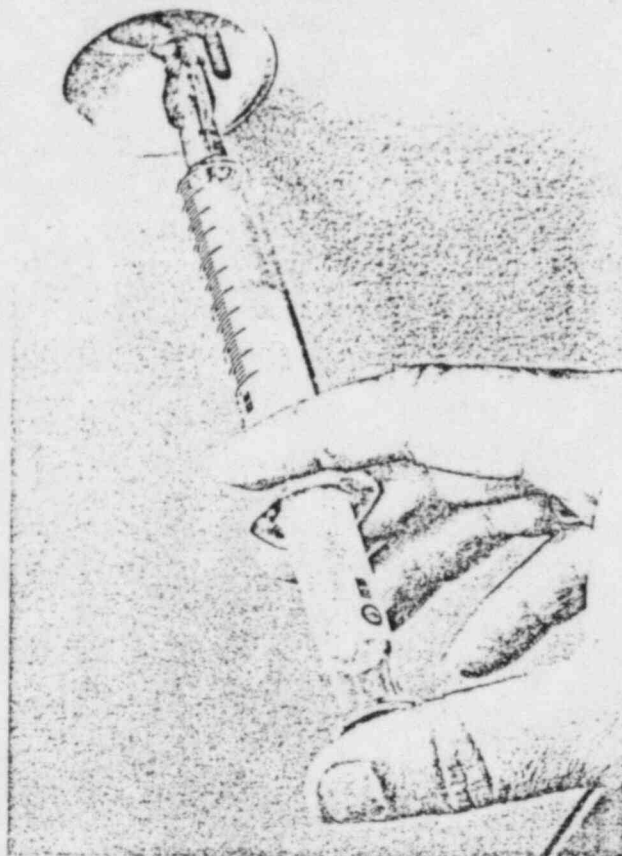

Figure 15. Injecting 133Xe gas into the gas inlet valve of the Ventil-Con. Note use of an all-glass syringe.
5.3.1.4 Open the stopcock on the Gas Inlet Valve and inject 30 mCi of 133Xe into the Ventil-Con (See Figure 15). The resultant concentration (30 mCi/10 liters) is 3.0 mCi/Liter. Close the stopcock.